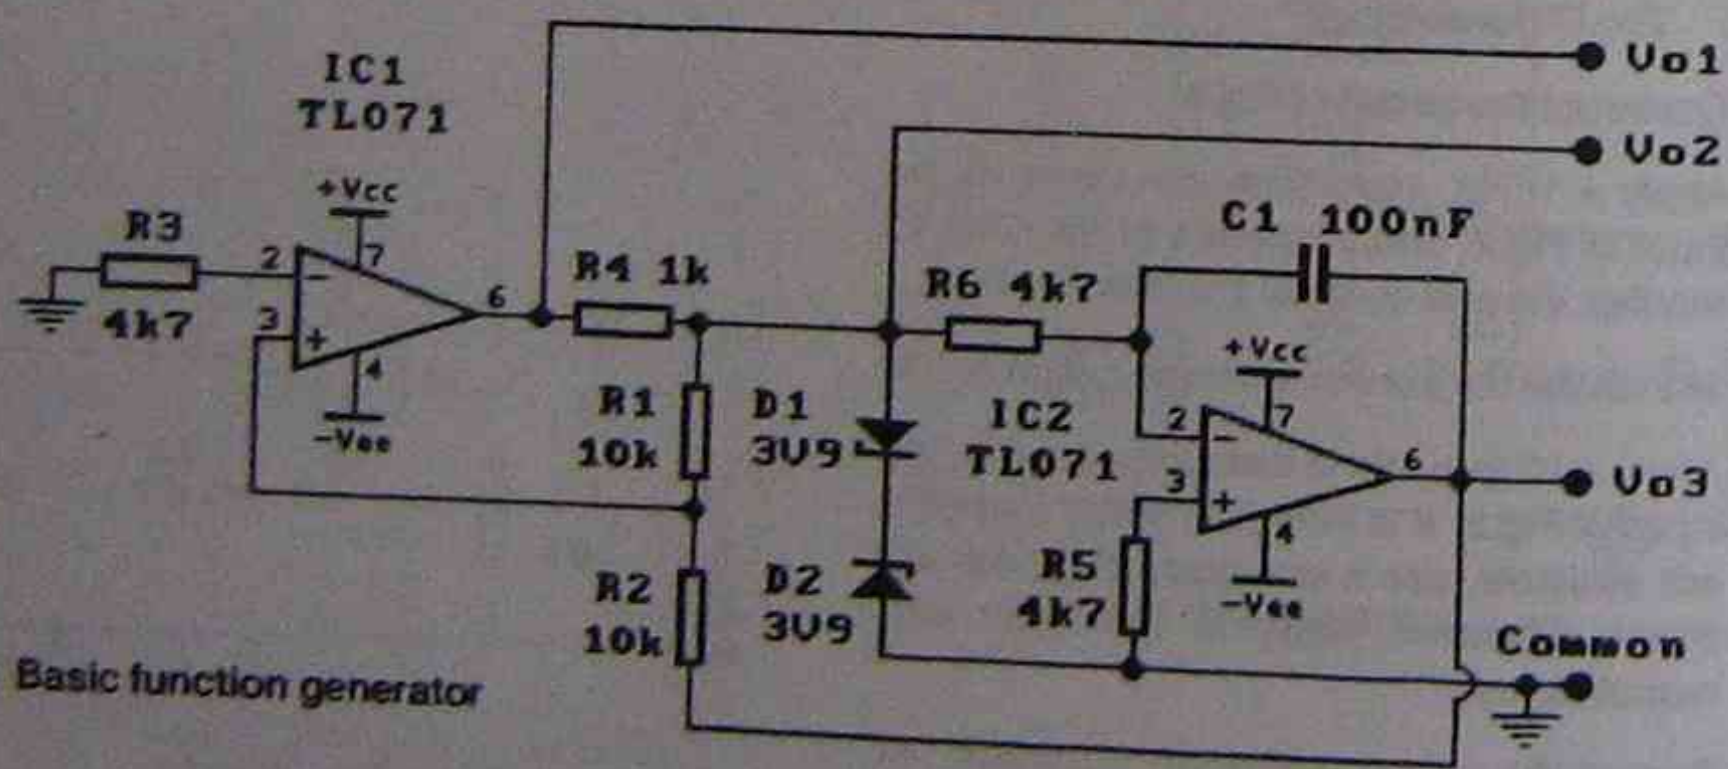

Fig.3: Basic function generator
- Construct the circuit of Fig.3.
(d) For the circuit of Fig.3, calculate the frequency of operation if C1 is 47nF and R6 is 6k Ω . (Try this if time permits).
(e) For the circuit of Fig.3, describe the effect on the operation of the circuit if D2 and D3 are changed to 5V6 zener diodes. (Try this if time permits)
(f) Compare the measured frequency to the calculated frequency for the circuit of Fig.3.